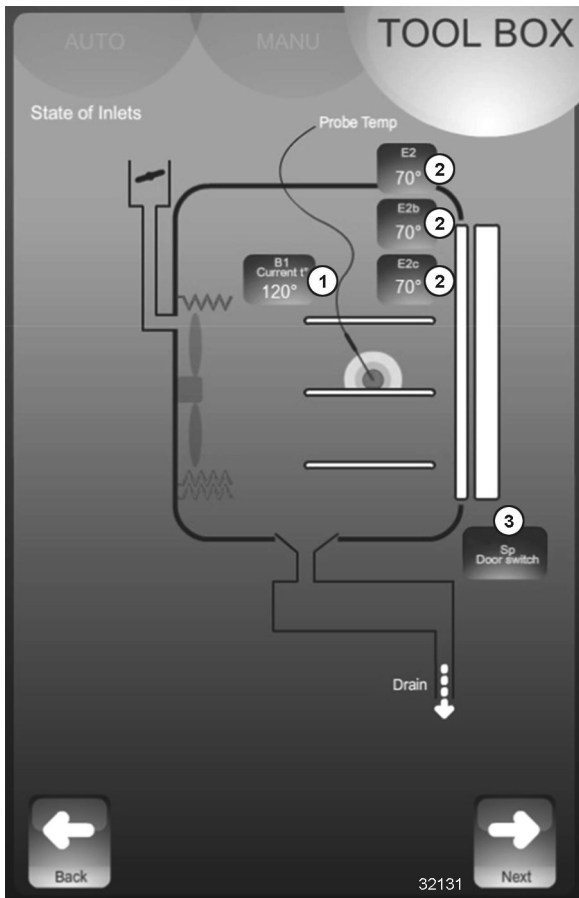

Fig. 110
- The **State of Inlets** screen (Fig. 110) provides the following indications:
- B1** (1, Fig. 110) - Cavity temperature (monitored by output control assembly input B1).
- E2 / E2b / E2c** (2, Fig. 110) - Core probe(s) temperature (monitored by output control assembly input E2, E2b, E2c).
- SP** (3, Fig. 110) - Door position (monitored by output control assembly input SP).